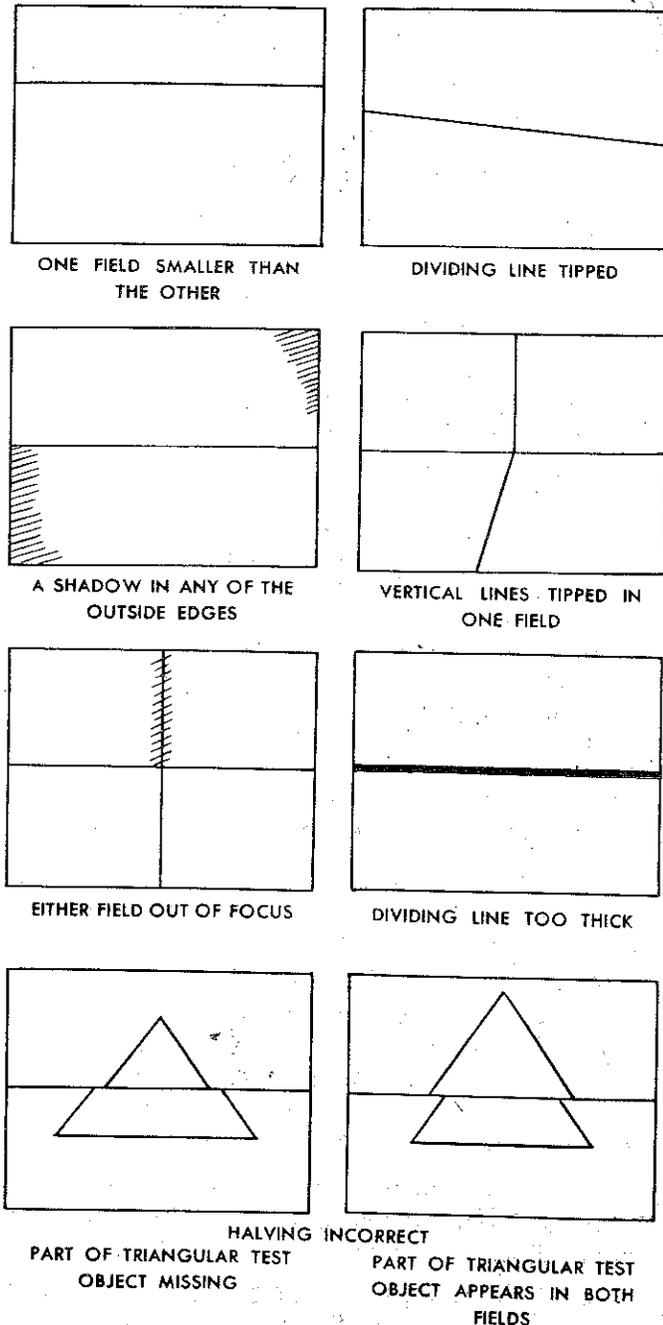

Figure 48—Optical Defects in Range Finder
(a) **LINES ARE TIPPED IN LOWER FIELD.**—If the lines are tipped clockwise as shown in figure 48, use special tool No. 501-E to tighten the large end prism bracket to mount screw (24). In most cases it will be necessary to tighten the screw only very slightly. If no result is obtained, loosen very slightly the center one of the three smaller end prism bracket to mount screws (26) directly above the large screw. Working the two screws in conjunction with each other, straighten the vertical lines. After making the adjustment, shellac both screw heads. If the lines
(5) **EITHER FIELD OUT OF FOCUS.**—The focus of each field is controlled by the position of its objective lens mount assembly (2). The left-hand lens mount assembly controls the lower (stationary) field, while the right-hand lens mount assembly controls the upper (movable) field. To make an adjustment, use special tool No. 501-D to loosen the two objective lens mount nuts (1) on the objective lens mount assembly concerned and move it forward or backward until the field is in perfect focus. After making the adjustment, correct the halving as described in subparagraph (6), following, and shellac the nuts to lock them in place.
(6) **HALVING IS INCORRECT.**—The halving or height adjustment is best tested on a triangular test object. When the halving is incorrect, the sides of the test object will appear to be broken even when the range finder is set for the correct distance. This effect is due to incorrect adjustment of one of the objective lens mount assemblies (2); if there is too much vertical separation between the two lenses a section of the triangle will be missing, while if there is not enough, the same part of the triangle will appear in both fields. See figure 48.